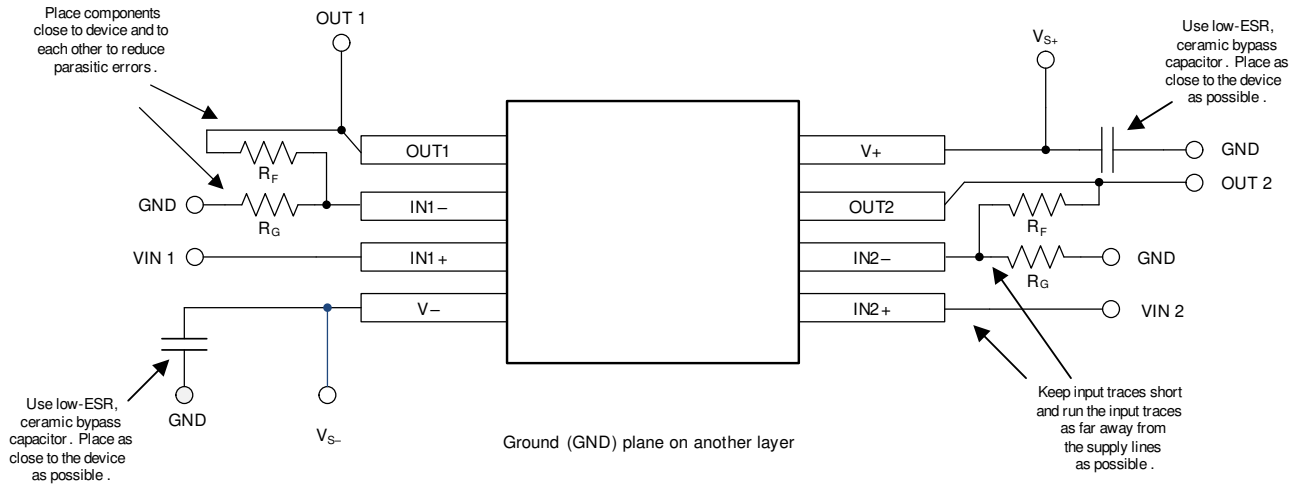

Figure 42. Layout Example
- Place the external components as close to the device as possible. As illustrated in Figure 42, keeping RF and RG close to the inverting input minimizes parasitic capacitance on the inverting input.